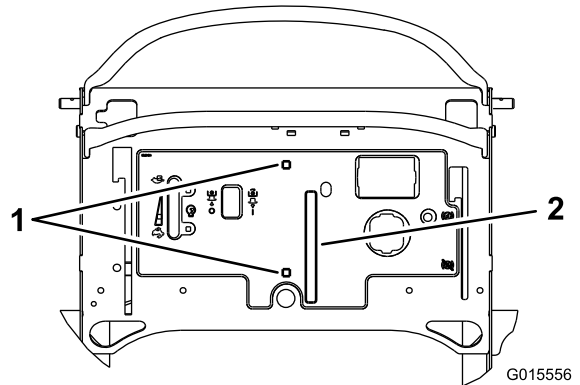

Figure 9
1. Using the tower as a template, cut a slot in the decal for the speed control lever and the square holes for the carriage bolts (Figure 9).